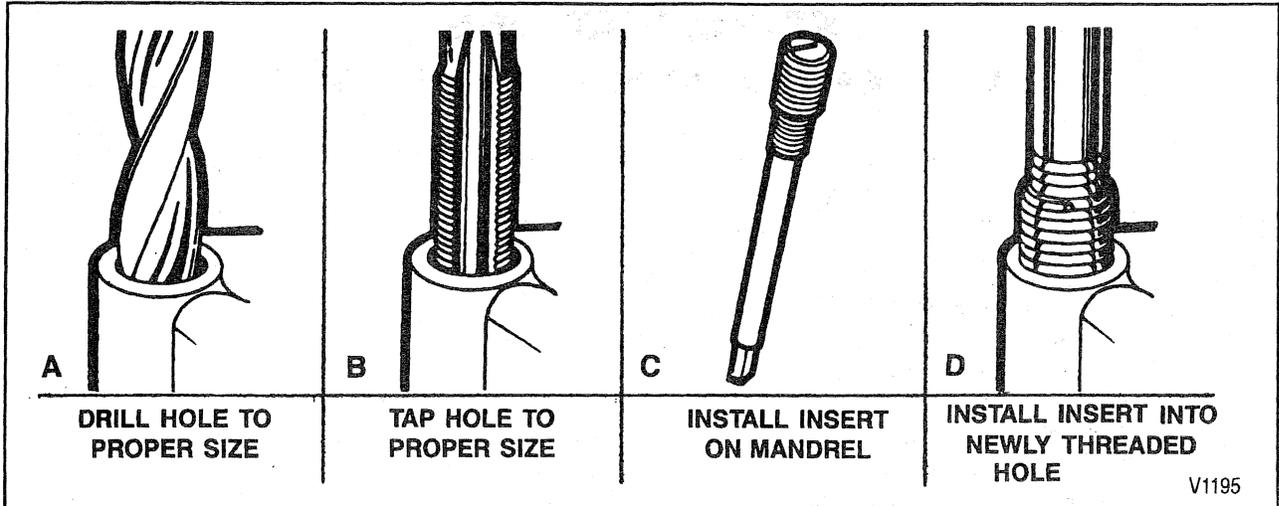

Figure 43—Repairing Thread Holes
4. Thread the thread insert onto the mandrel of the installer (figure 43). Engage the tang of the insert onto the end of the mandrel.